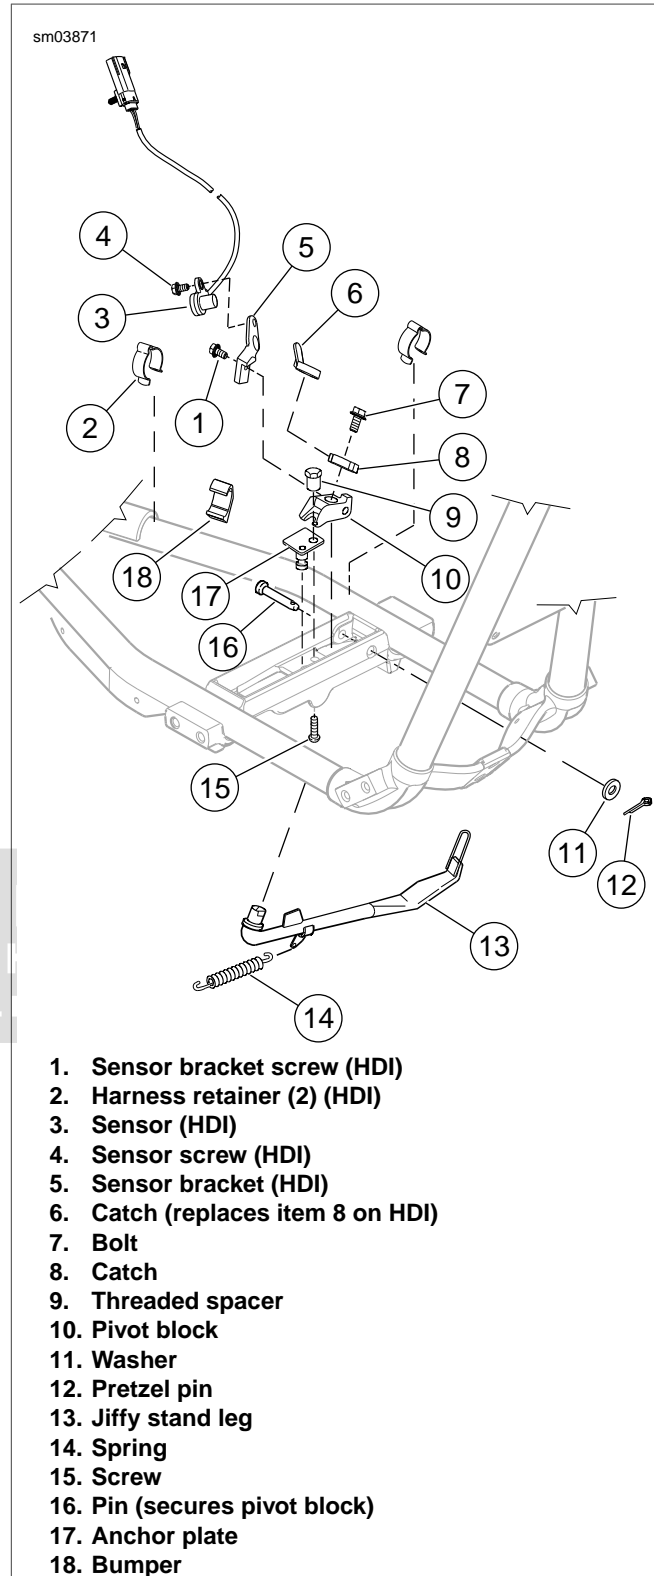

Figure 2-115. Jiffy Stand
2. See Figure 2-115. Inspect top of catch (6 or 8). If covered with dirt, wipe dirt off with a shop towel and spray catch and mating surface with LOCTITE AEROSOL ANTI-SEIZE.
3. Move jiffy stand leg (13) forward and back to infuse anti-seize into mating parts.
4. If catch is covered with mud/grime, remove bolt (7) and catch (6 or 8).
5. Clean catch (6 or 8) and pivot block mating surface (10).
6. Spray LOCTITE AEROSOL ANTI-SEIZE on shaft of jiffy stand leg and pin (16) to lubricate the mating surface between pin and pivot block (10). Move leg back and forth and downward while spraying lubricant.
7. Assemble the catch so it engages the flats on the shaft of the jiffy stand leg and secure with bolt (7).
8. Tighten bolt (7) to 19 ft-lbs (25.8 Nm).
1. See Figure 2-115. Make a note of harness routing for ease of assembly. Disconnect sensor connector located under the seat.
2. Remove cable anchors (2).
3. Remove screw (4) and remove sensor (3).
4. If necessary, remove screw (1) and remove sensor bracket (5).
2. See Figure 2-115. Remove cotter pin (12) and washer (11) from pin (16). Discard cotter pin.
3. Detach spring (14) from jiffy stand and anchor plate (17).
4. Pull pin (16) from between frame tubes. Jiffy stand and pivot block components will drop as an assembly.
1. See Figure 2-115. Place pivot block (10) and jiffy stand leg (13) assembly between frame tubes.
2. Insert pin (16) from direction shown through frame tubes and pivot block (10). Secure with washer and a **new** cotter pin (12).
3. Attach spring (14) to anchor plate (17) and jiffy stand leg. When properly installed, hook on spring side connected to jiffy stand leg faces upward.